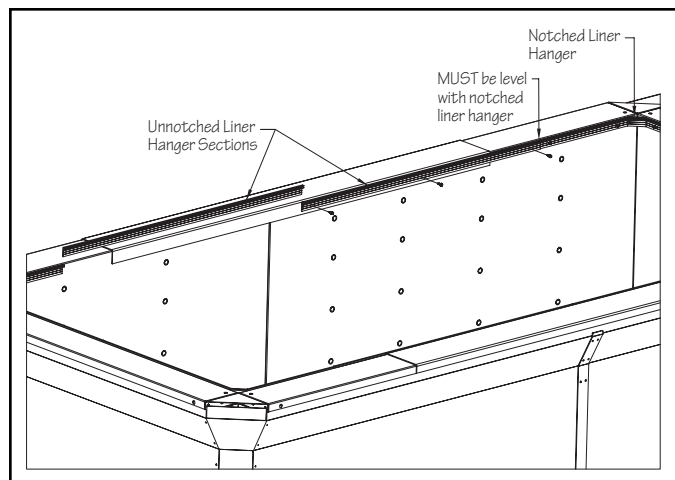

Fig. 23
Once the notched liner hanger sections are installed in each corner, secure the unnotched sections along each side wall. The unnotched sections will transition onto the reinforcing channel which protrudes 1/8" (3mm) further into the pool. The unnotched sections **MUST** be level with the adjacent notched sections before attaching. Use (3) self-drilling screws per unnotched section to secure to the pool wall. It's important that the gap at any joint between liner hanger sections is no greater than 1/2" (13mm). Fig. 23.